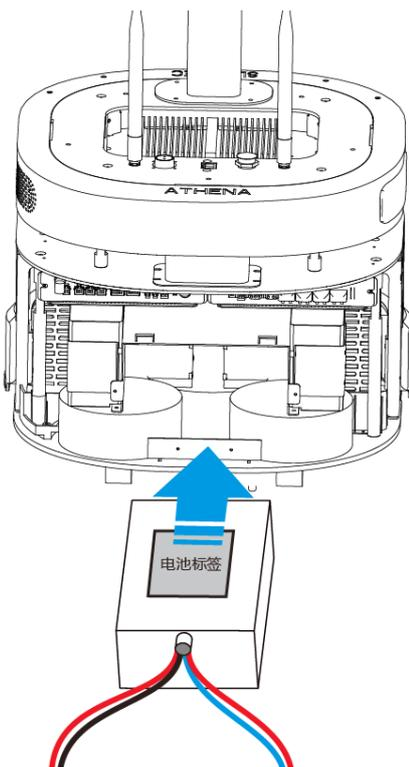
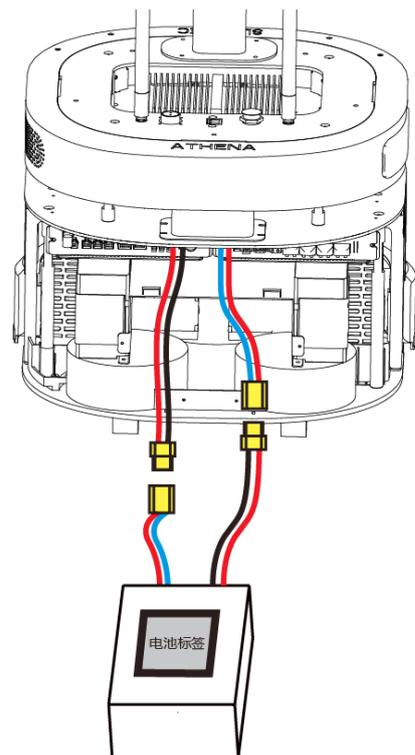

Figure 16
Figure 17
- As shown in Figure 16, carefully put the battery into the battery holder with the mark side up. And the connect the cables between battery and Athena (the black cable is connected to the air switch and the blue cable is connected to the BATIN interface of the power management module), as shown in figure 17.